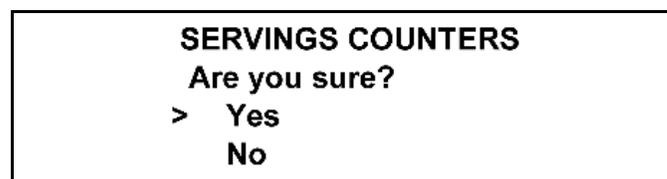

Figure 2-35
3. Then select the Calibration key . The display will ask, “Are you sure?” (See Figure 2-35.)